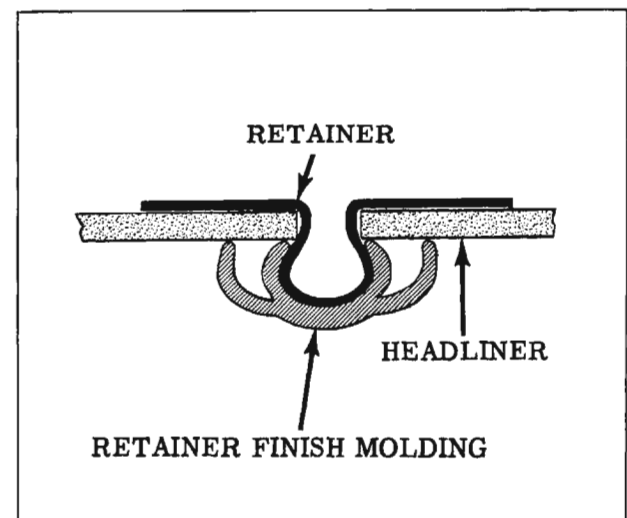

Fig. 16-186 Headliner and Retainer
2. With a screwdriver or suitable tool, pry one end of the plastic retainer finishing molding loose from its retainer. Then "peel" the plastic retainer finishing molding from its retainer. (Fig. 16-186)